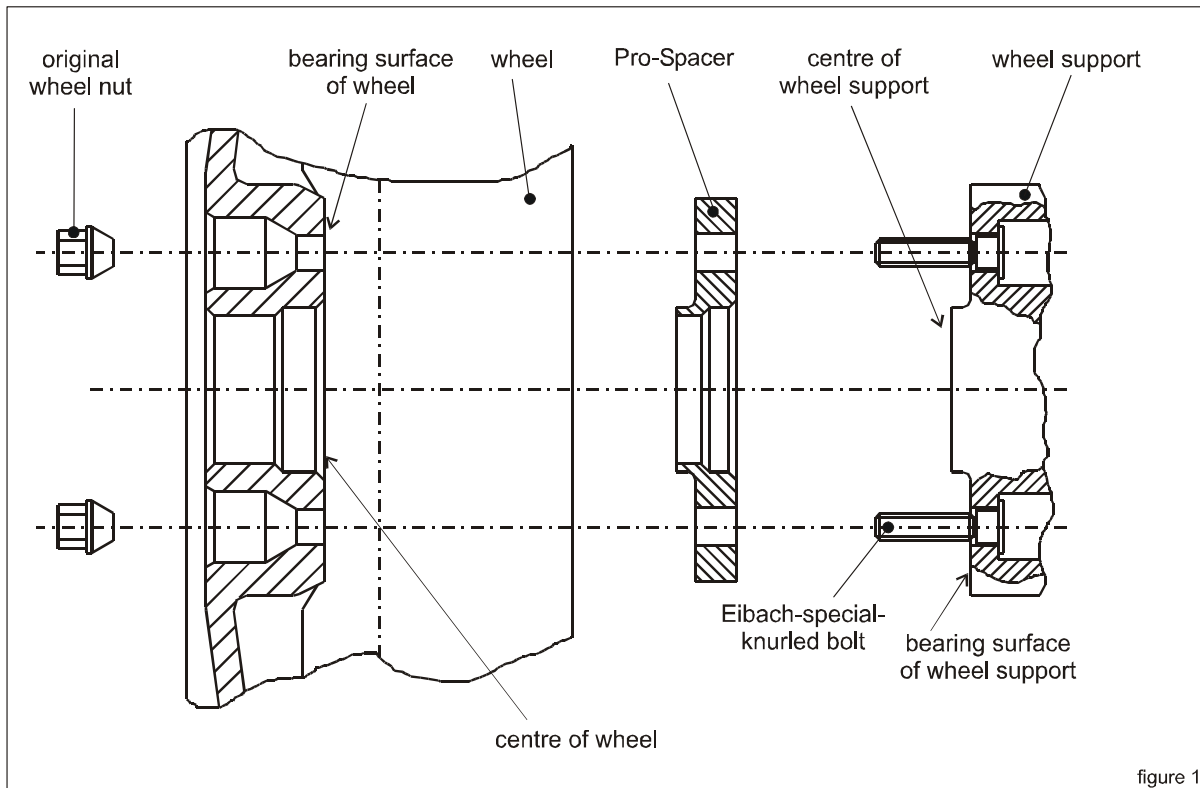

figure 1
1. The hub center surface and the wheel (Figure 1) must be clean and free of rust and dirt. If necessary, use a wire brush to clean the surfaces. When cleaning, proceed with caution, to avoid damaging other components.